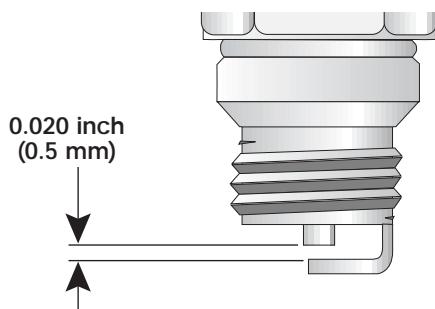

Figure 26
- Set the air gap at 0.020 inch (0.5 mm) using a feeler gauge. See Figure 26.